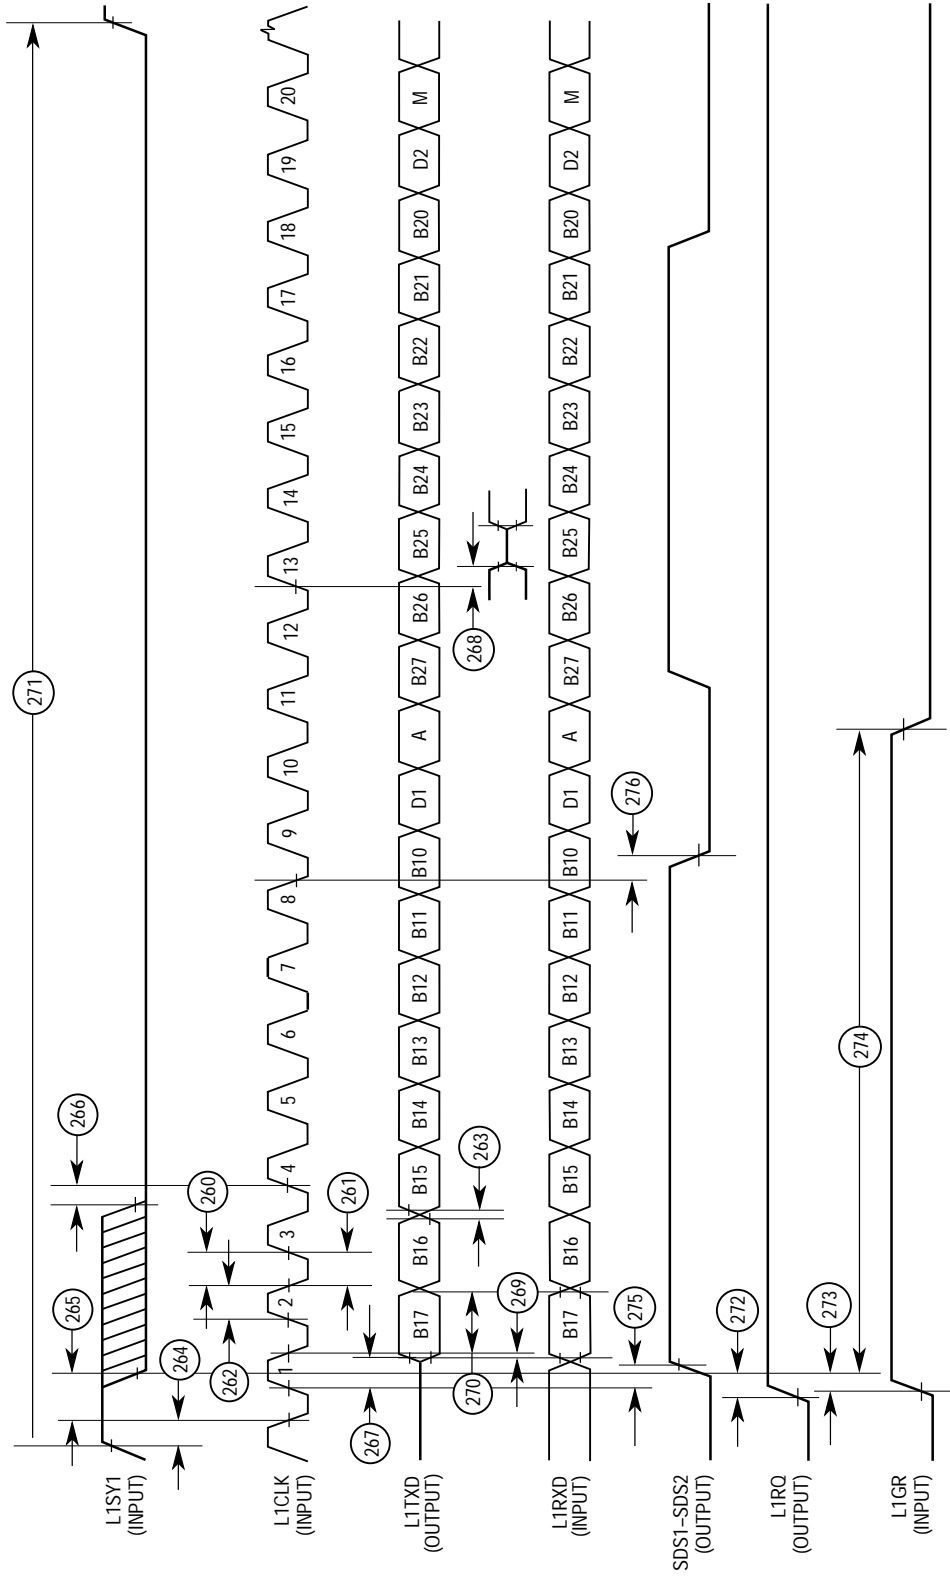

Figure 6-19. IDL Timing Diagram
6.19 AC ELECTRICAL SPECIFICATIONS—IDL TIMING (All timing measurements, unless otherwise specified, are referenced to the L1CLK at 50% point of V_{DD}) (see Figure 6-19)